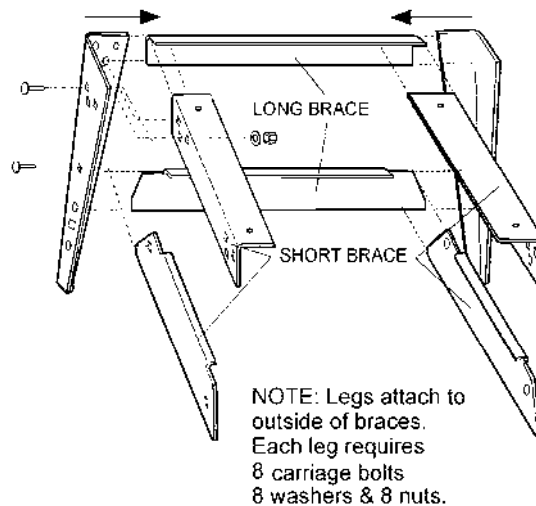

Figure 6
1. Assemble two leg sets using the long cross braces attached to the **inside** of the legs. The lower cross braces go into first set of square holes located approximately center of each leg. See Figure 6. *[The bottom holes on the legs are not used for this machine.]* Use (32) 5/16-18 x 5/8 carriage bolts, (32) 5/16 hex nuts, and (32) 5/16 flat washers to assemble the stand.
2. Attach the four short braces to one set of legs as shown in Figure 6.